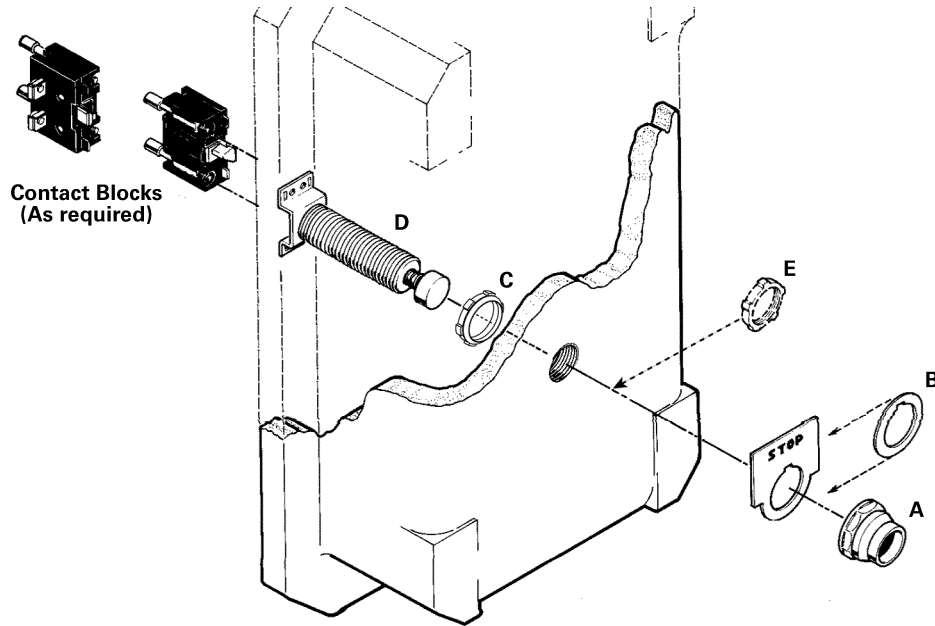

Figure 1
6. From inside the enclosure, install assembly **D** through a 3/4 inch 14NPSM tapped hole until the front of the bushing projects 5 or 6 threads from the front surface of the enclosure. Position the bushing with the contact block bracket as shown in Figure 1 if vertical alignment of the contact block terminals is desired.